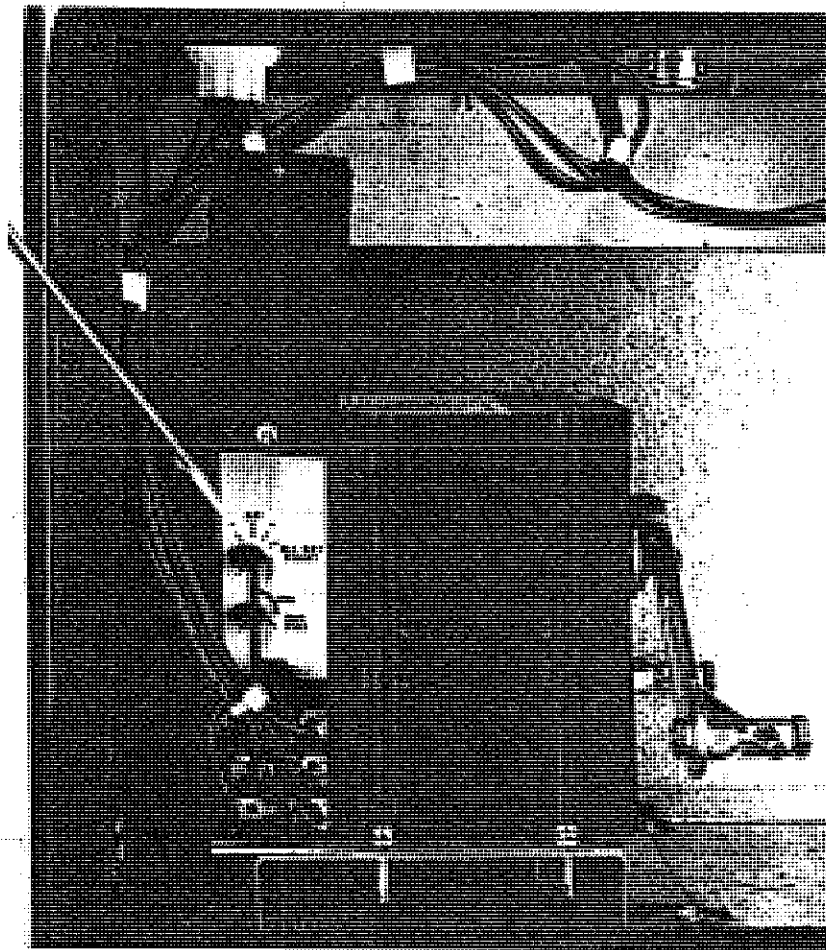

Figure 7
- a. Remove the access plate on the motor (see enclosed manufacturer's literature) located above wiring terminals. (Figure 7)
- c. Cycle the minimum position potentiometer 0 to full open (Figure 7). Throughout checkout procedure observe operation of damper to insure there is free, unobstructed operation through the entire range of damper travel. Then adjust the damper minimum open position to meet local codes or application requirements. (See example below)
- d. Adjust mixed air potentiometer (Figure 7) (factory set at 55°F) to insure desired temperature to meet local codes or application criteria. (Do not confuse this with the MAT calculated above). This is the temperature of fresh air cooling desired when unit is in economizer mode and is typically desired to be 55°F to 60°F.